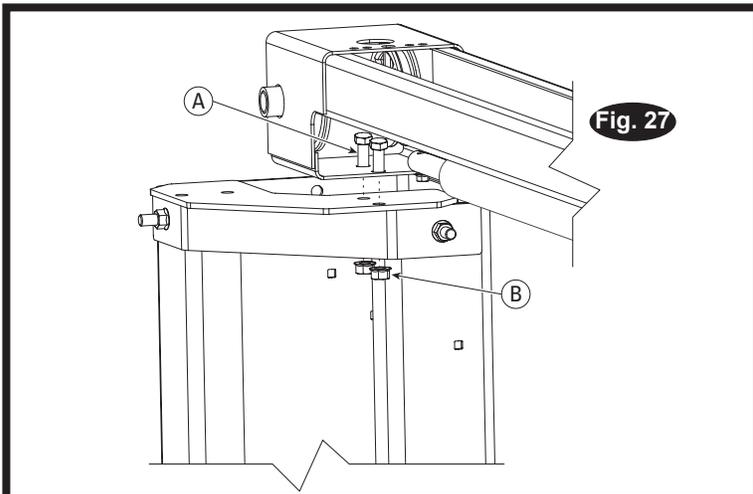

Fig. 27 Detail
4. With a ladder by each column, two people position the overhead assembly onto column mounting brackets and fasten with (2) M10*20 Lg. HHCS. and (2) M10 Lock nuts each column, Fig. 27. Tighten bolts at center of overhead assembly.